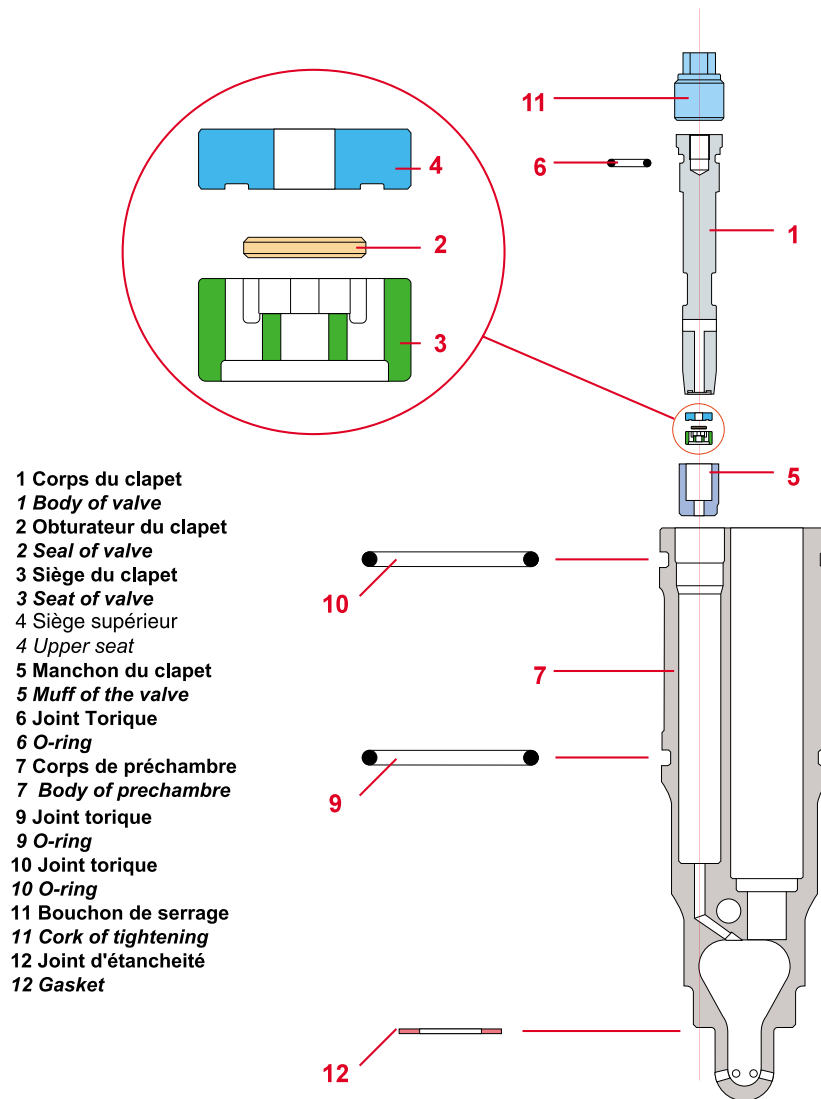

Fig. 16-3
- 2** Replace the O-rings (9) and (10) on the prechamber (see Fig. 16-3)
- 4** Replace the sealing washer (12).
- 5** Install the prechamber and the flange (4) and tighten nuts (11) to the prescribed torque (see Section 07).